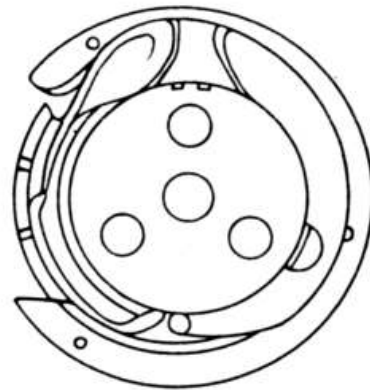

Fig. 24a
- Remove the bobbin case base with sewing hook gib (fig. 24a).